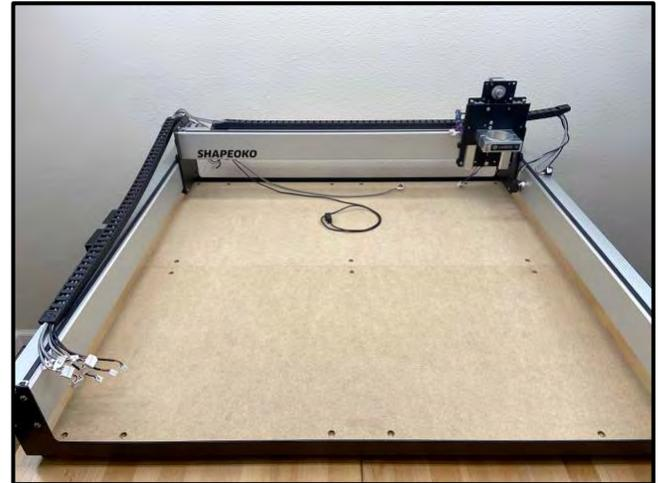

Figure 10
2. Lay the drag chain on the rails. See **Fig. 10**.